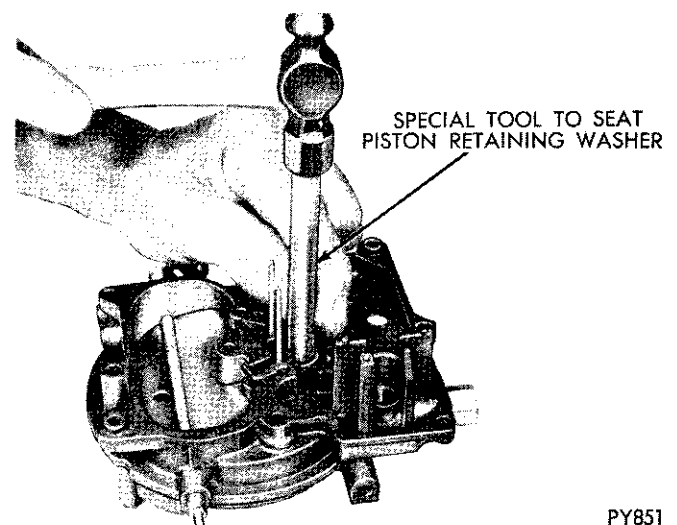

Fig. 17—Installing Vacuum Power Piston
(1) Test freeness of choke mechanism in air horn. The choke shaft must float free to operate correctly. If choke sticks in bearing bores, or appears to be gummed from deposits in air horn, a thorough cleaning will be required.
(2) Install vacuum power piston in its cylinder (Fig. 17). Lock in position by prick punching rim of cylinder (at least three places.) Do not over-stake. Compress piston to be sure no binding exists. If piston sticks or binds enough to hinder smooth operation, a new piston should be installed.
(3) Slide accelerator pump plunger compression spring over plunger stem, with small diameter toward